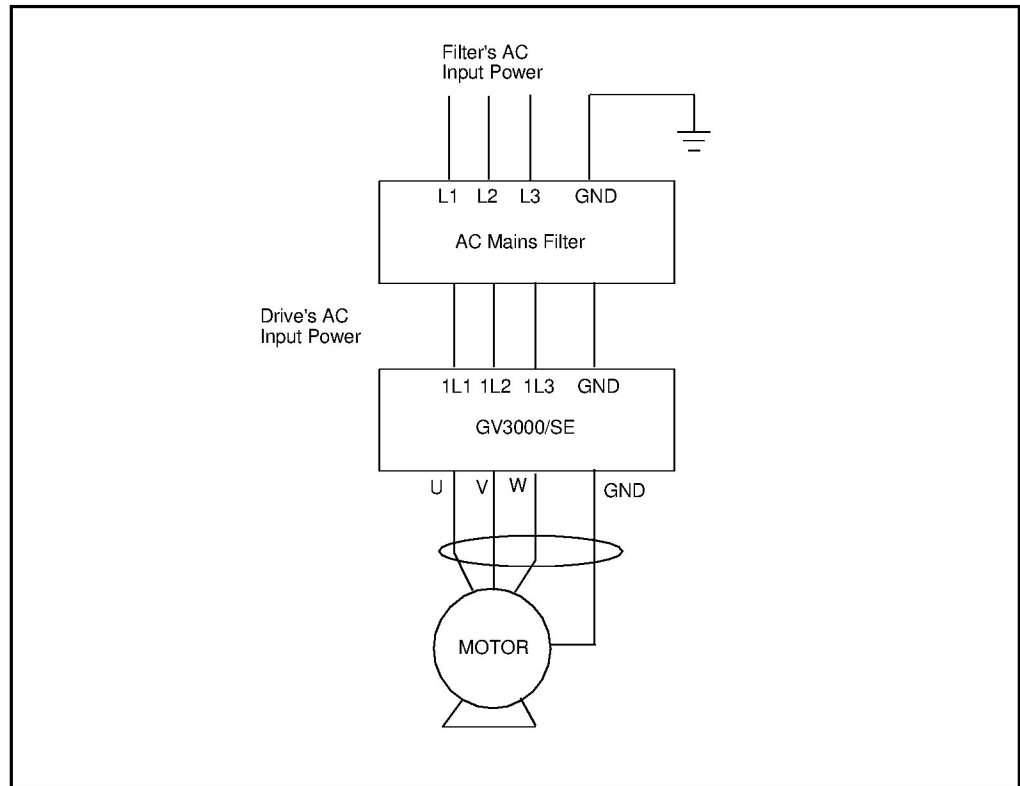

Figure C.7 – Typical Three-Phase Connections for AC Mains Filter M/N 2DF4125
The power leads that connect the output terminals of the AC Mains Filter to the drive's AC input terminals are user-supplied. See figure C.7.
- When the drive is connected to three-phase AC input power, the three output leads from the filter should be connected to the drive's AC input power terminals as shown in figure C.7.